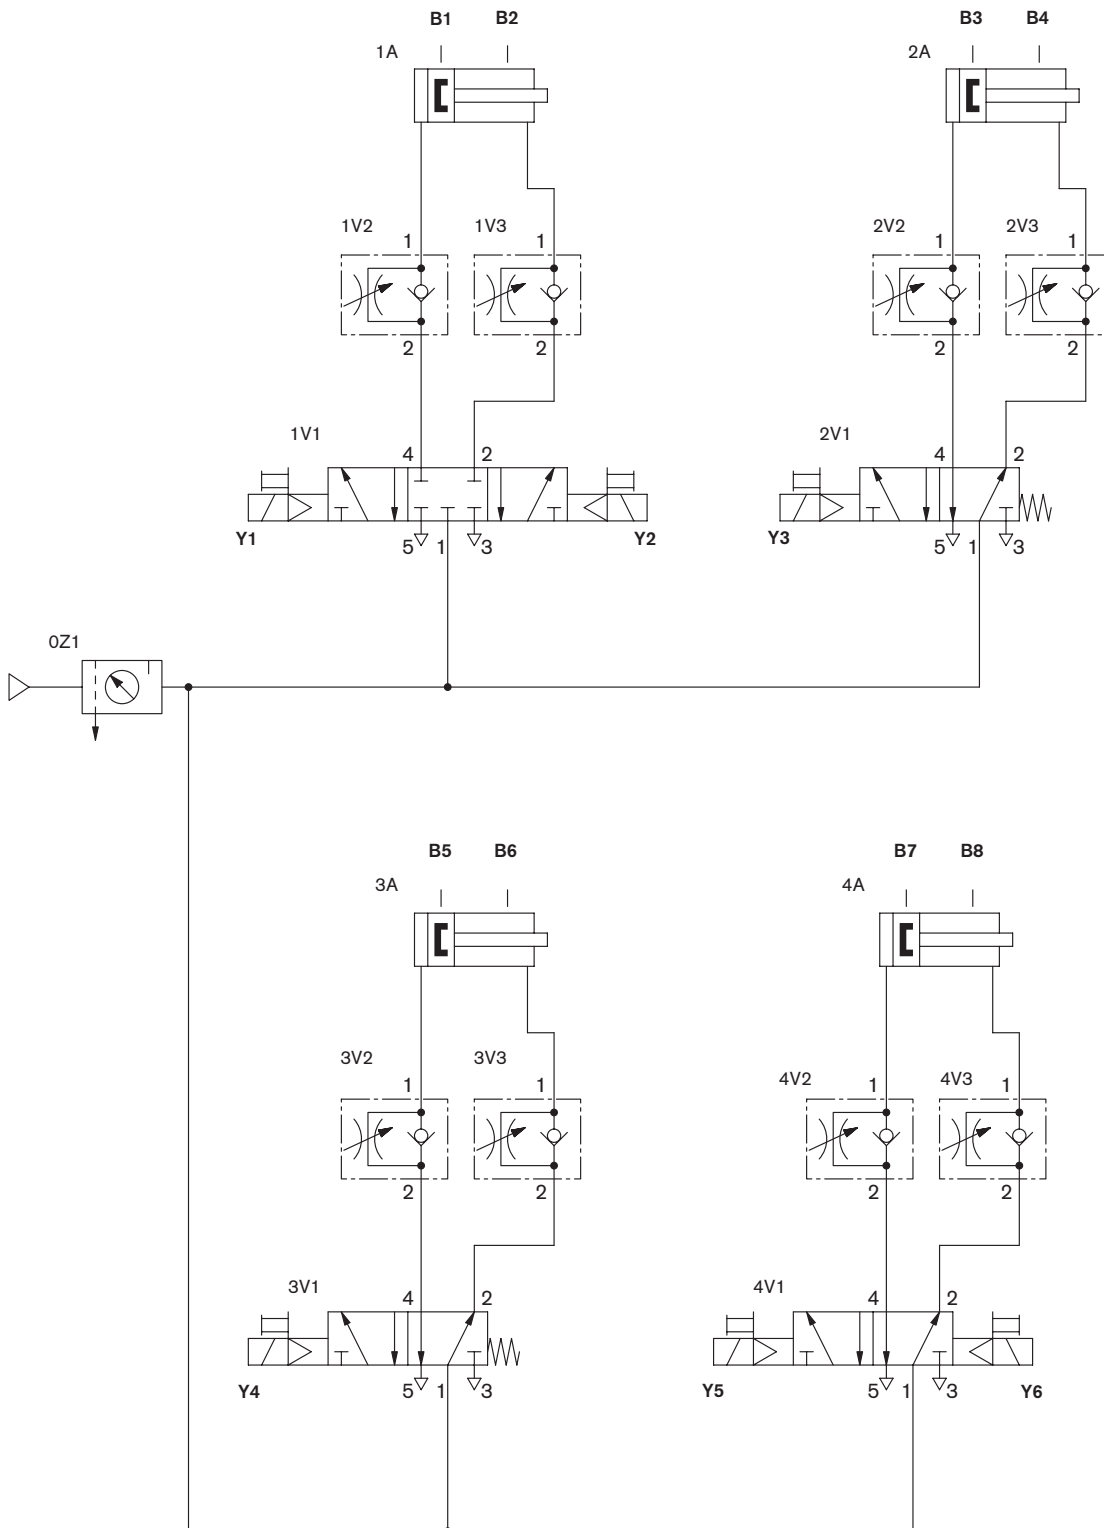

Fig 04-6: Pneumatic circuit diagram
Supplement the assignment table for the inputs used of the PLC taking account of the information from Fig. 04-6.
Supplement assignment table for the outputs used of the PLC taking account of the information from Fig. 04-6 and Fig. 04-8.
2. Set up pneumatic circuit according to Fig. 04-6.